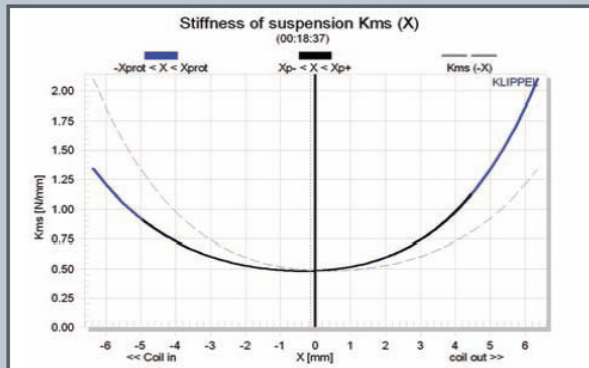
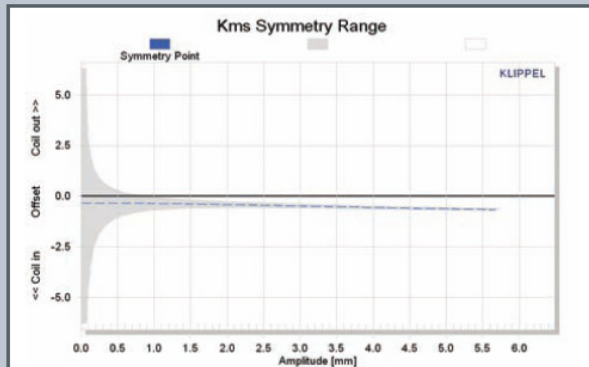

FIGURE 22: Klippel Analyzer mechanical stiffness of suspension  $K_{ms}(X)$  curve for the Scan-Speak 12W/4524G00.
FIGURE 23: Klippel Analyzer  $K_{ms}$  symmetry range curve.
**Figures 22 and 23** give the Kms(X) and Kms symmetry range curves for the 4" midwoofer. The Kms(X) curve is even more symmetrical. **Figure 23**, the Kms symmetry range plot, shows a 0.35mm coil-in offset at the rest position that increases somewhat to 0.5mm at the physical Xmax of the driver. Displacement limiting numbers calculated by the Klippel analyzer for the midrange were XBI at 82% BI = 3.4mm and for XC at 75% Cms minimum was 2.4mm, which means that for this 4" midwoofer, the suspension offset is the most limiting factor for prescribed distortion level of 10%.